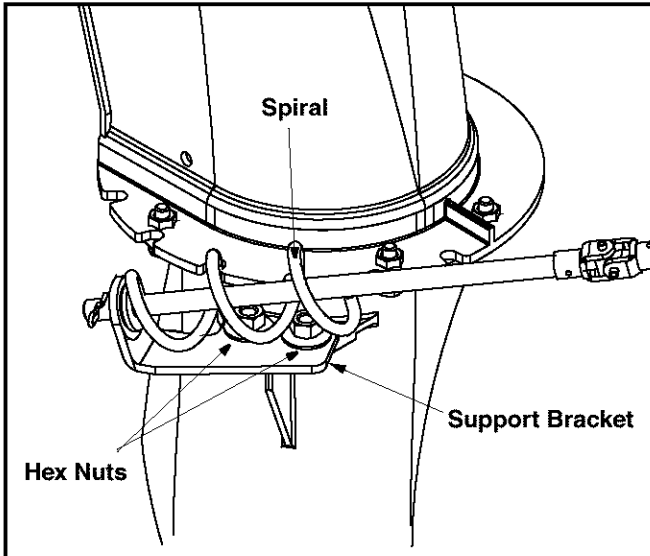

Figure 20
- Loosen, but do NOT remove the two hex nuts which secure the support bracket to the snow thrower housing. See Figure 20.